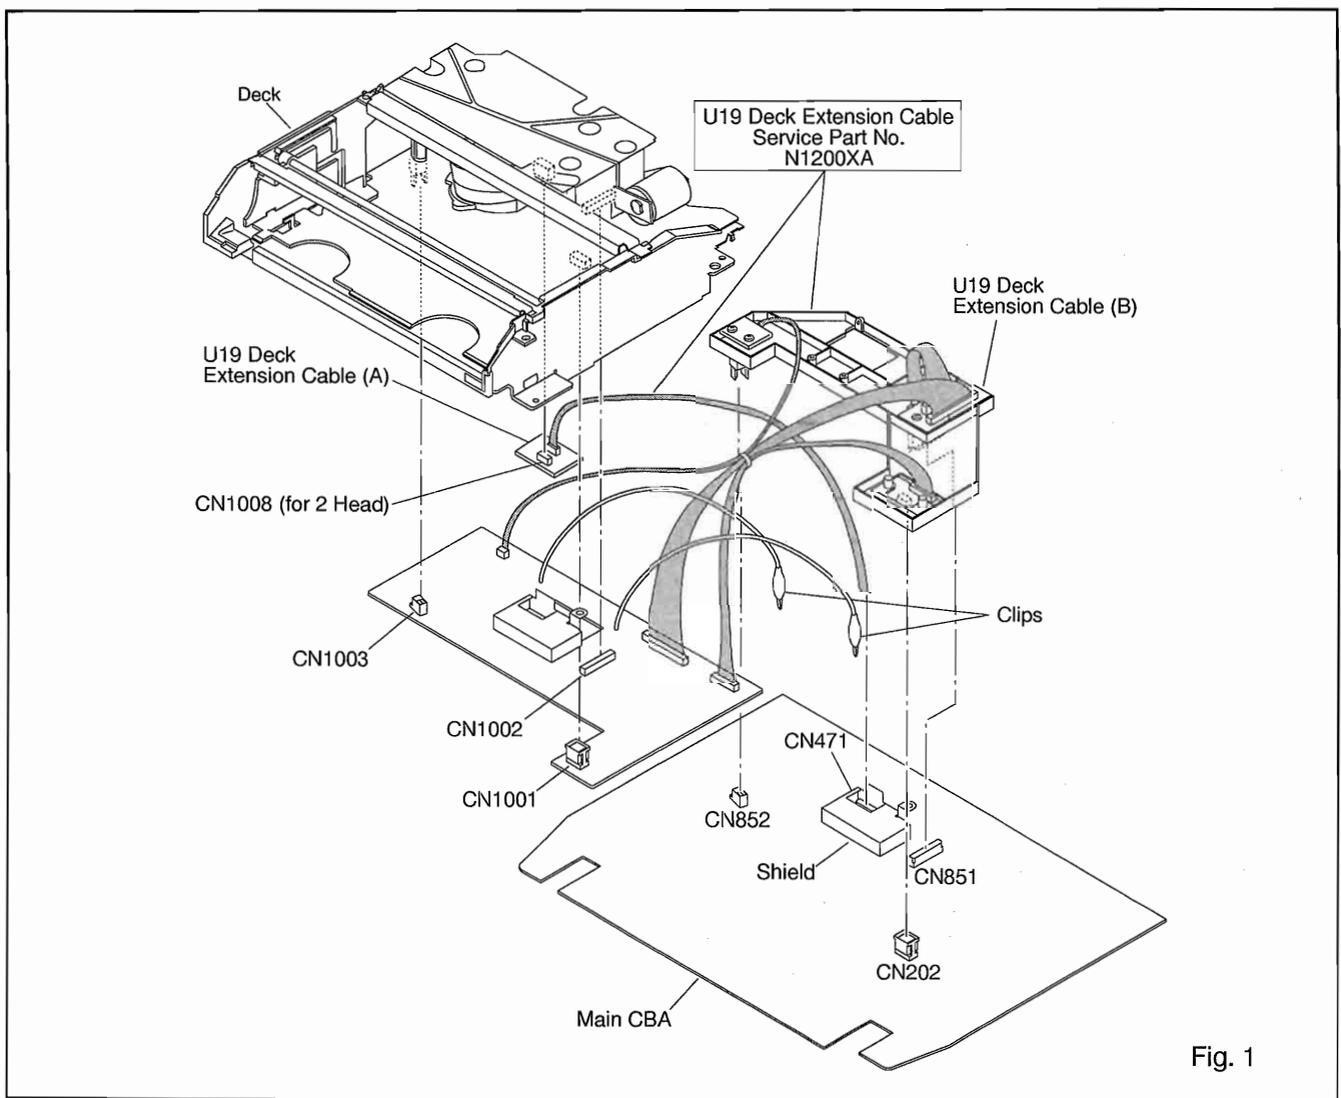

Fig. 1
(2) Connect Main CBA and Deck with the U19 Deck Extension Cable (A) as shown in Fig. 1. And connect Main CBA and Deck with U19 Deck Extension cable (B) as shown in Fig. 1. Connect the 2 clips to the Shield plate on the Main CBA.